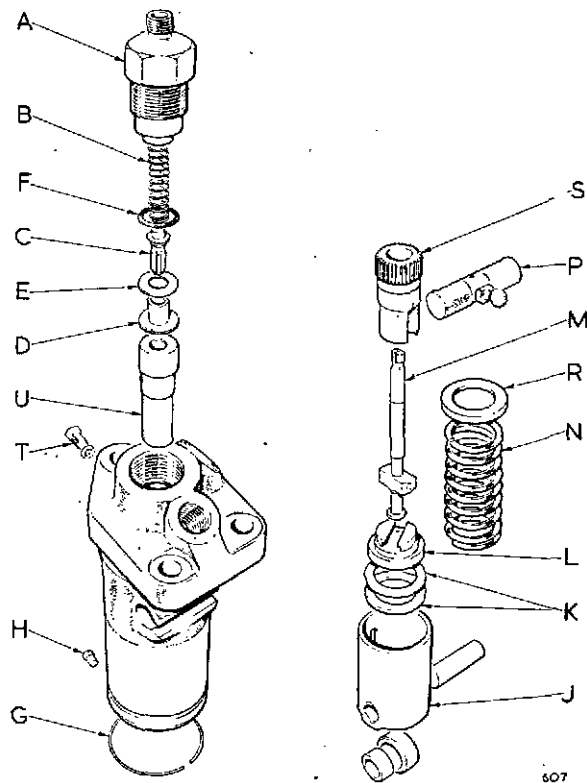

Fig. 12
57. To dismantle fuel injection pump (Fig. 12)
- (f) Remove the tappet (J) together with the roller and roller pin. Note the number and thickness of the calibrating shims (K) between the tappet and the lower spring plate (L).
- (g) Remove the lower spring plate (L), the plunger (M) and the plunger spring (N). Note the assembly mark on the plunger arm farthest from the rack (P).
- (h) Remove the upper spring plate (R) and the pinion (S). Note the assembly marks on one tooth of the pinion (S) and on the rack (P). Note also the relative position of the 'STOP' mark and arrow on the rack before sliding out the rack from the pump body.
- (j) Remove the element locating screw (T) and push out the element (U) through the top of the pump.
59. To replace fuel injection pump (Fig. 12)
- (c) The ring (F) should be fitted over the lower shoulder of the union body (A) before the union body is screwed into the pump body. Failure to observe this precaution may result in the ring being crushed between the union body and the joint (E). A torque spanner is advisable for tightening the union body. It should be set to the figure shown under Technical Data.
- (d) When assembling the rack (P) and pinion (S) make sure that the marked tooth of the pinion is opposite the mark on the rack and that the rack is assembled in the pump body so that the 'STOP' mark and arrow will be towards the gear end of the engine when the pump is fitted.
- (e) Make sure that the element (U) can be moved up and down slightly when the locating screw (T) is tightened.
- (f) Replace the plunger (M) with the marked locating arm engaged with the marked slot in the pinion (S), i.e., the marked locating arm is towards the locating screw (T).
- (h) Replace the tappet (J) making sure that the correct number and thickness of shims is used.
- (j) Press down the tappet and roller assembly and fit the dowel (H) to engage with the slot in the tappet. Rotate the dowel to line up its slot with the ends of the circlip (G) and then turn the circlip in its groove until the ends of the circlip are away from the dowel.